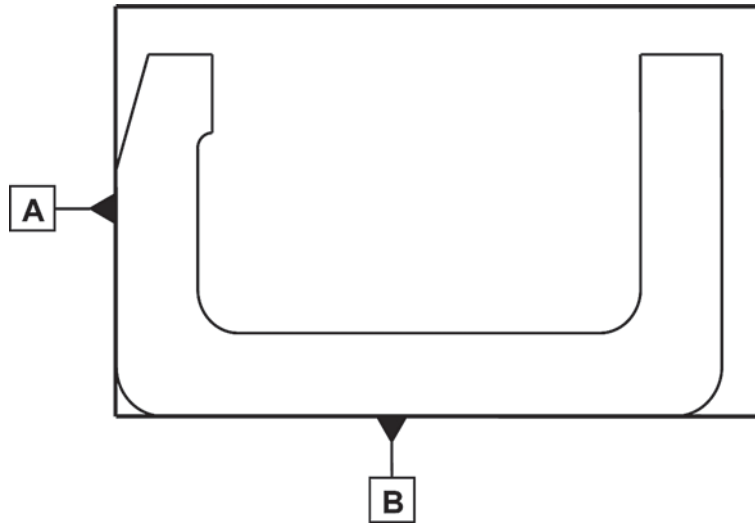

Figure 8
The G clamp body will be marked out on the material as shown in Figure 8.
- a. What is the name given to faces A and B in Figure 8?